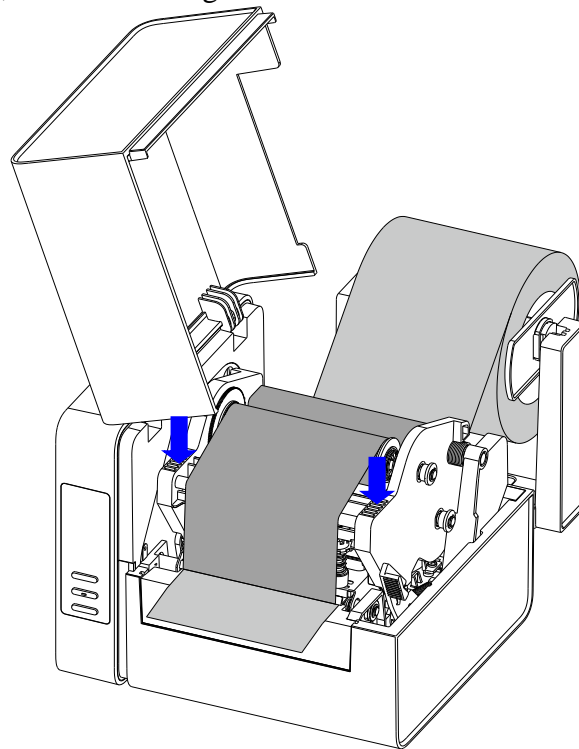

Figure 2-18 Media loaded
7. Press the Printhead Module downward until you hear a “click”, which indicates the module have locked into place, as shown in Figure 2-18.